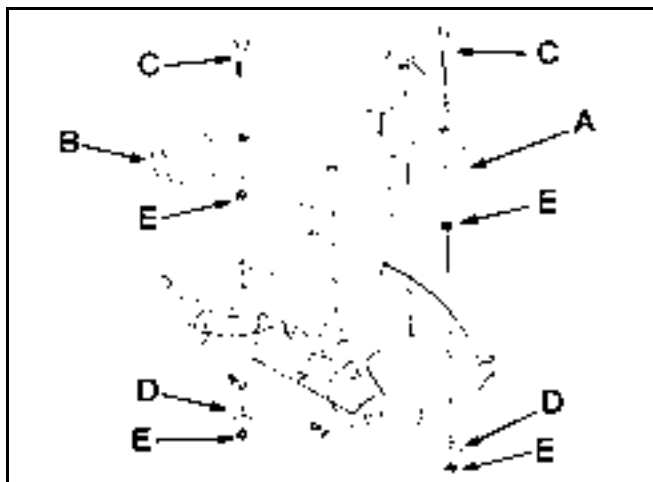

Figure 238
2. Place the left side baffle inside cutting chamber. Secure the baffle to mower with 1-1/4" bolts through baffle and outside of deck (Figure 238). Secure with 5/16" lock nuts.
2. Remove lock nuts from right side baffle (Figure 238). Lift baffle and slide out of interlock with left side baffle to remove.